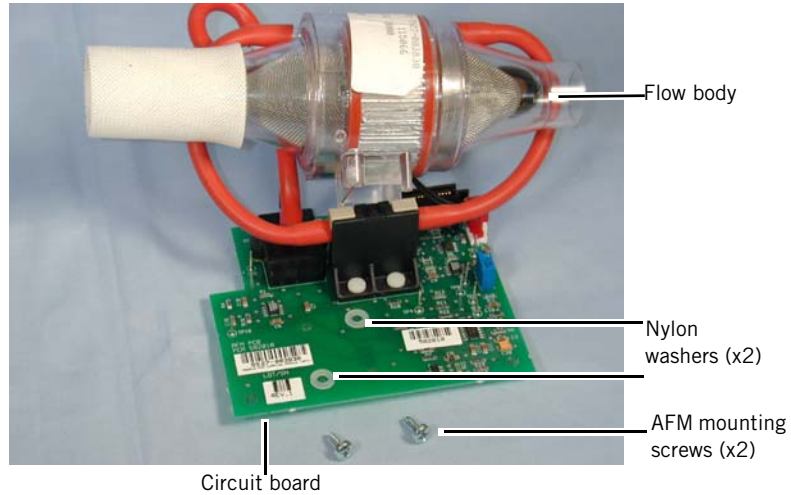

Figure 8-6: Installing Nylon Washers under AFM Mounting Screws
3. Remove the 2 mounting screws that attach the flow body to the circuit board, using care not to damage the thermistor wire connection (Figure 8-6).